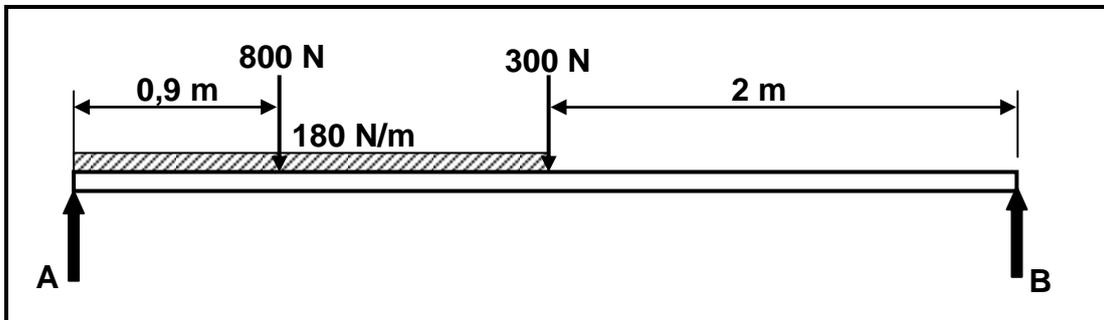

FIGURE 8.2
8.2 The diagram in FIGURE 8.2 below shows a 4 m long beam supported by two vertical supports, **A** and **B**. Two vertical point loads of 800 N, 300 N and a uniformly distributed load of 180 N/m is exerted over the left half of the beam. Calculate the magnitude of the reactions in supports **A** and **B**. **(Draw and complete the diagram in FIGURE 8.2. Indicate the point load replacing the uniformly distributed load.)**